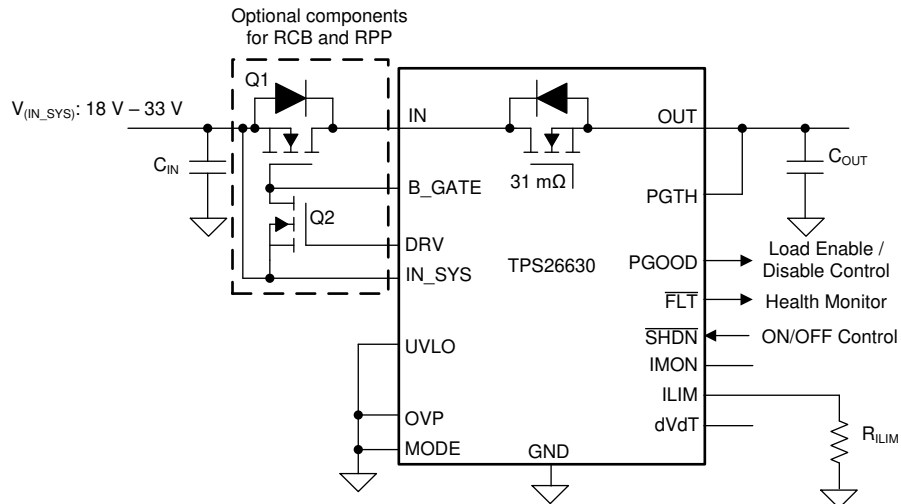

Figure 9-11. TPS26630 Configured for a Simple 24-V Supply Path Protection
With the TPS2663x devices, a simple 24-V power supply path protection can be realized using a minimum of five external components as shown in the schematic diagram in Figure 9-11. The external components required are: an N-Channel Power FET Q₁, an N-Channel signal FET Q₂, and an R_(ILIM) resistor to program the current limit, C_(IN) and C_(OUT) capacitors.